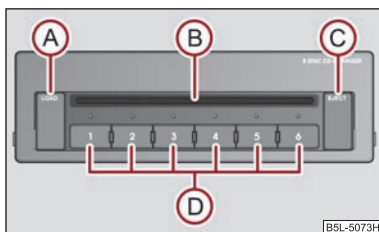

Fig. 126 The CD changer
- Touch the button **A** ⇒ fig. 126 and guide the CD (compact disc) into the CD-case **B**. The CD is automatically loaded onto the lowest free position in the CD changer. The LED in the corresponding button **D** stops flashing.